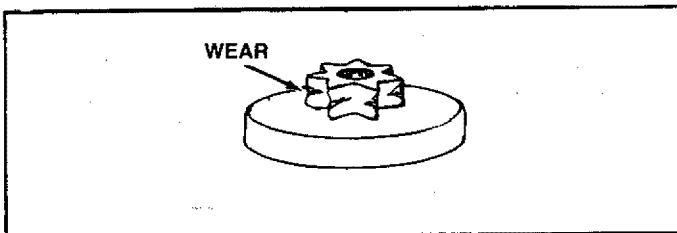

Figure 41
- Inspect the sprocket regularly for wear. A worn sprocket will make the chain run erratically and will shorten the life of the bar and chain. Figure 41.